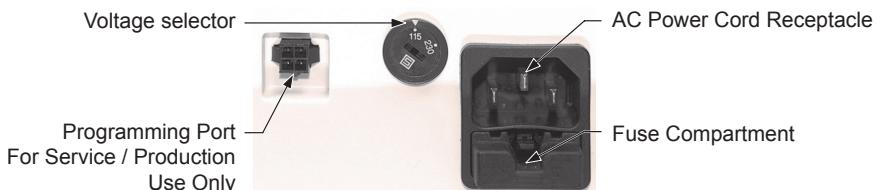

Fig. 2 - Back of device
1. Unpack the console and check that the Voltage Selector is set to the proper voltage. Use the 115V position for 110-120V 60Hz voltages, and the 230V position for 220-250V 50Hz voltages. Always unplug the unit before changing fuses or adjusting the voltage selector. To change voltage, use a flat head screwdriver to turn the Voltage Selector on the back of the console to the proper voltage setting. To change voltage, replace the fuse to match voltage (See "SPECIFICATIONS", page 36). Replace with 0,3A, 230/250V slow blow fuse (0,6A for 115V). For replacement, press on the black plastic clip of the fuse, pull out and replace with the correct fuse. See Fig. 2.